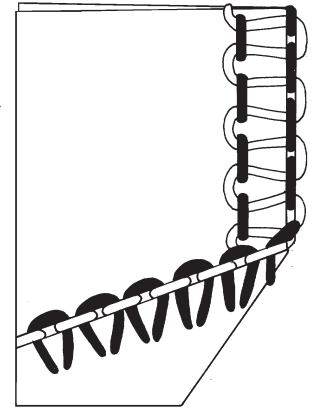

Fig. 15-6
- ❑ **Ravel-free seam finishes.** The serger can finish the edges of a straight-stitched seam or can actually sew a seam itself. (Fig. 15-6)